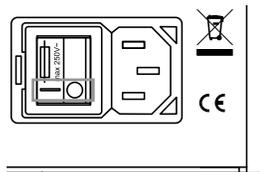
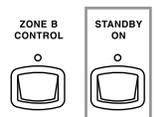

Figure 1
Figure 2
- The MX160 has a Rear Panel Main Power rocker type switch. This switch removes all AC Power from the MX160 circuitry. It is useful to remove AC Power when the unit will not be used for an extended period of time, during lightning storms or AC Power outages. Referring to figure 1, the rocker switch is placed in the OFF  position when shipped from the factory. Place the Main Power rocker switch to the ON  position. The Front LED located above the STANDBY ON Push-button should now be illuminated. Refer to figure 2.